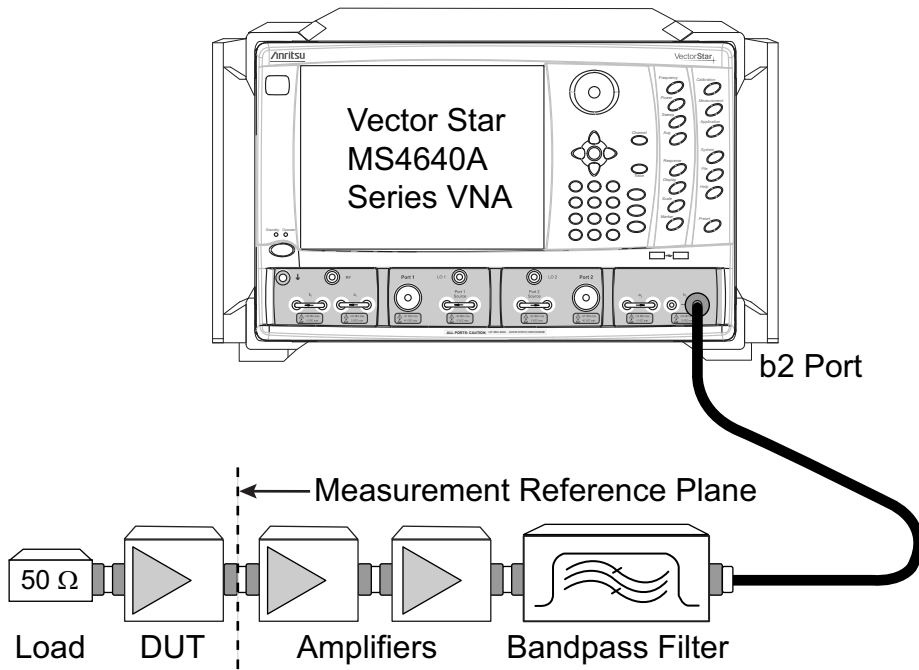

Figure 1-3. DUT Measurement
8. DUT Measurement (Figure 1-3).